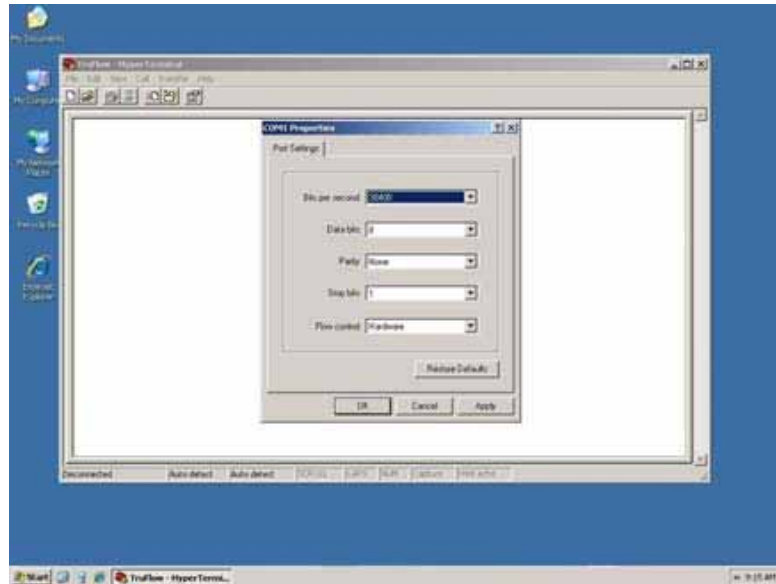

Figure 13 Setting the BPS
8. See Figure 13. Set the Bits Per Second to 38400 and click on OK.